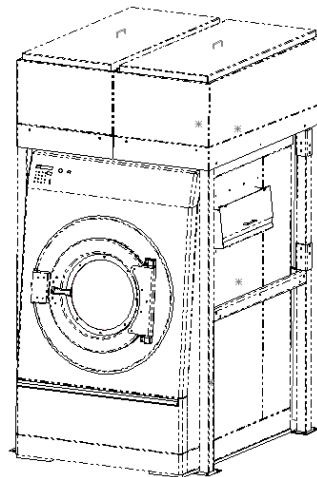

Figure 10.
Slide the water conservation system into place over the washing machine. Watch the overflow hoses; it is a tight fit. Position the front of the tanks flush with the front of the washing machine control panel. Once the system is situated in the desired location, remove the installation support (5) and reinstall the rear corner post insert (4). At this time also reattach the rear crossbar brackets (3), the rear crossbar (2), and the hoses (1). Figure 10 shows a correctly placed system ready to be bolted to the floor.